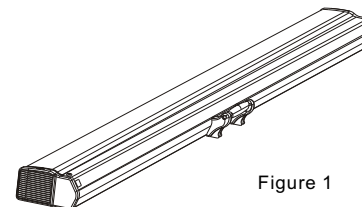

Figure 1
1. Put the screen on the flat ground or on the flat table. (Figure 1)